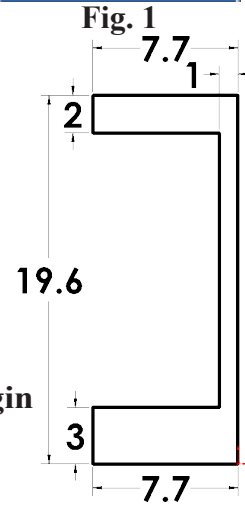

Fig. 3
- Step 5. Click **Smart Dimension**  (S) on the Sketch toolbar.
- Step 6. Dimension as shown in **Fig. 3**. Start dimensioning from smallest to largest dimension. Start with 1 and 2 then, work out to largest, do 19.6 last.